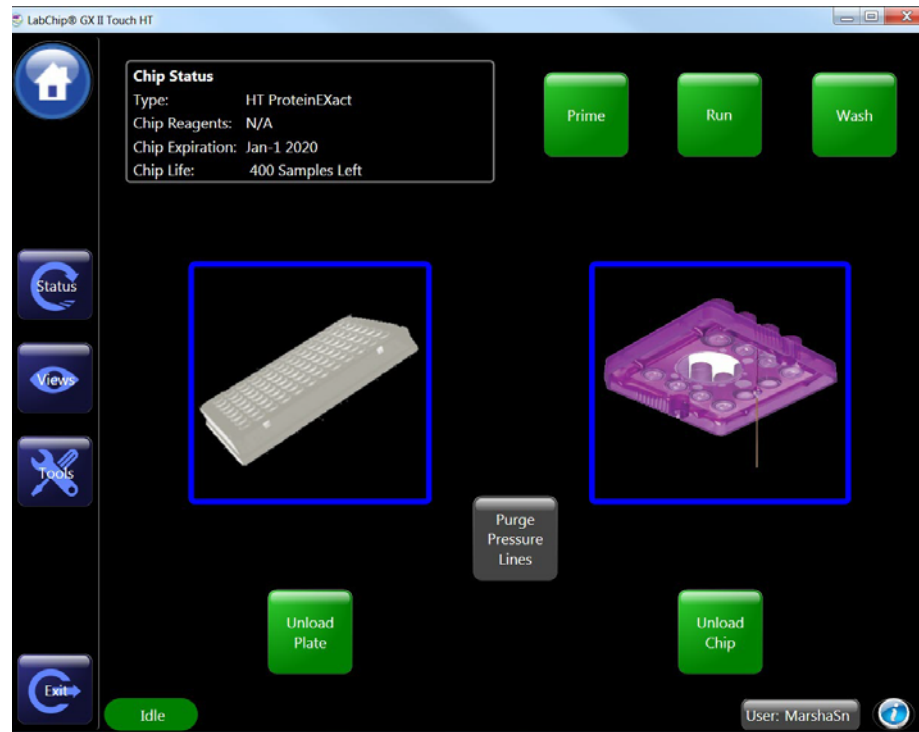

Figure 7. *Prime* button on *Home* screen
- 2 Touch the *Prime* button on the *Home* screen (Figure 7).